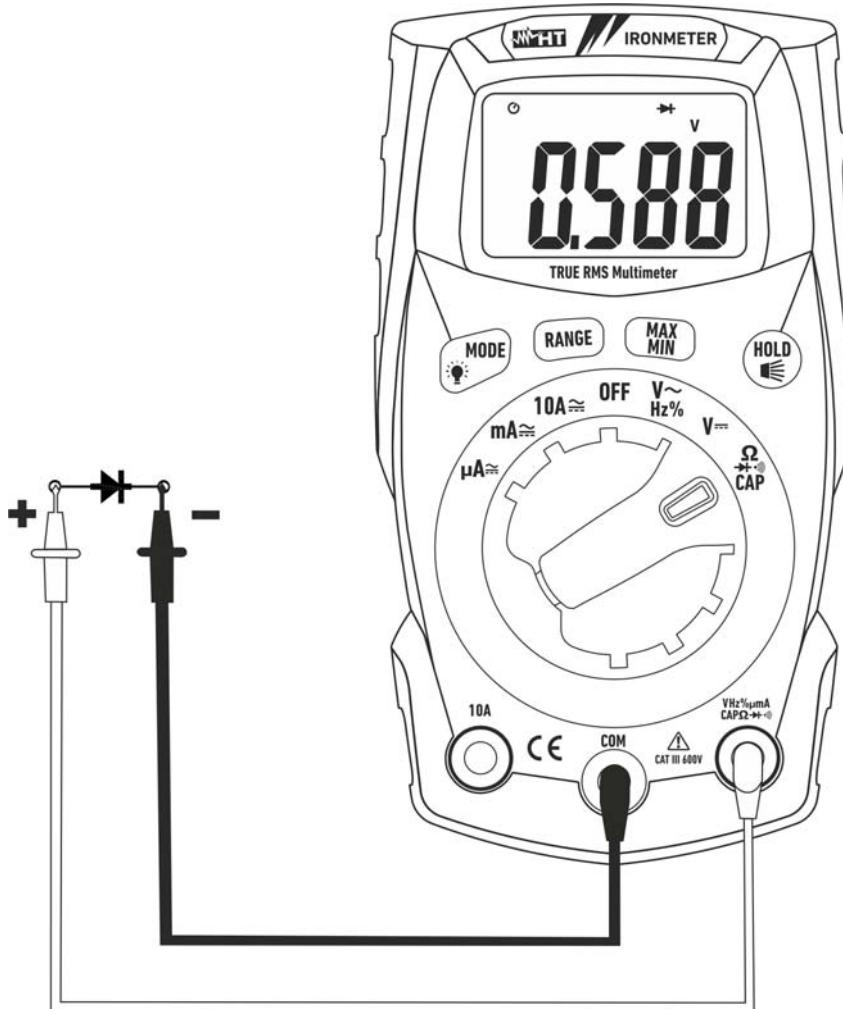

Fig. 6: Use of the instrument for diode test
4. Position the leads at the ends of the diode to be tested (see Fig. 6), respecting the indicated polarity.
7. If the display shows the message "O.L", the terminals of the diode are reversed with respect to the indication given in Fig. 6 or the P-N junction of the diode is damaged